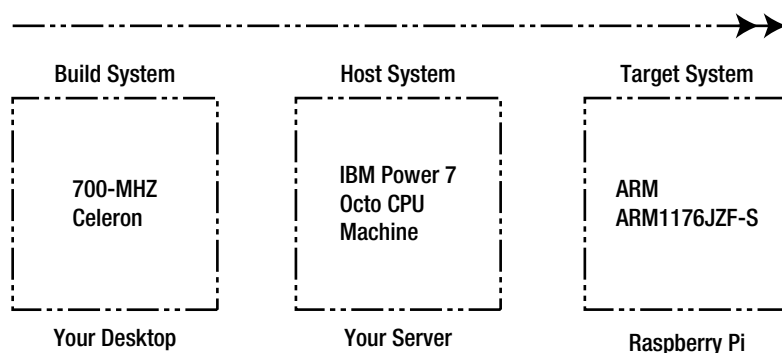

Figure 6-1. An example of a Canadian Cross build environment
- The second type of cross compiling is called Canadian Cross. The Canadian Cross will always involve a minimum of three systems, as you can see in Figure 6-1.